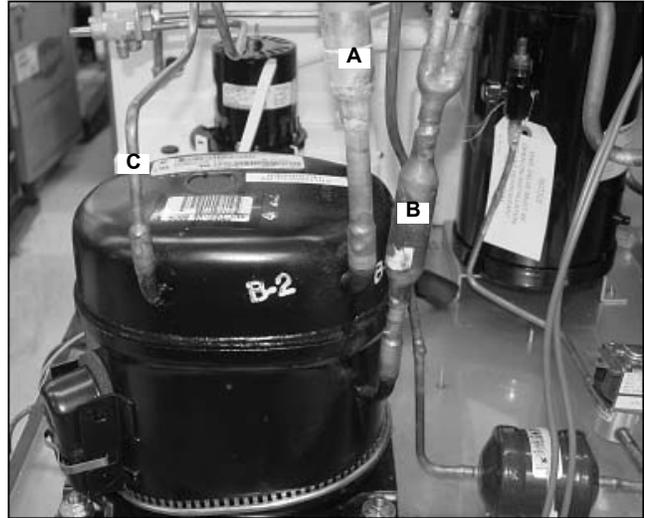

Figure 28.
23. Move the nitrogen feed to the low side service valve. Remove the insulation from the suction inlet by the crankcase pressure regulator valve (A) (Figure 28). Remove the suction line inlet and the compressor discharge (B) from the compressor. **DO NOT** remove the low side service valve line (C) from the compressor.